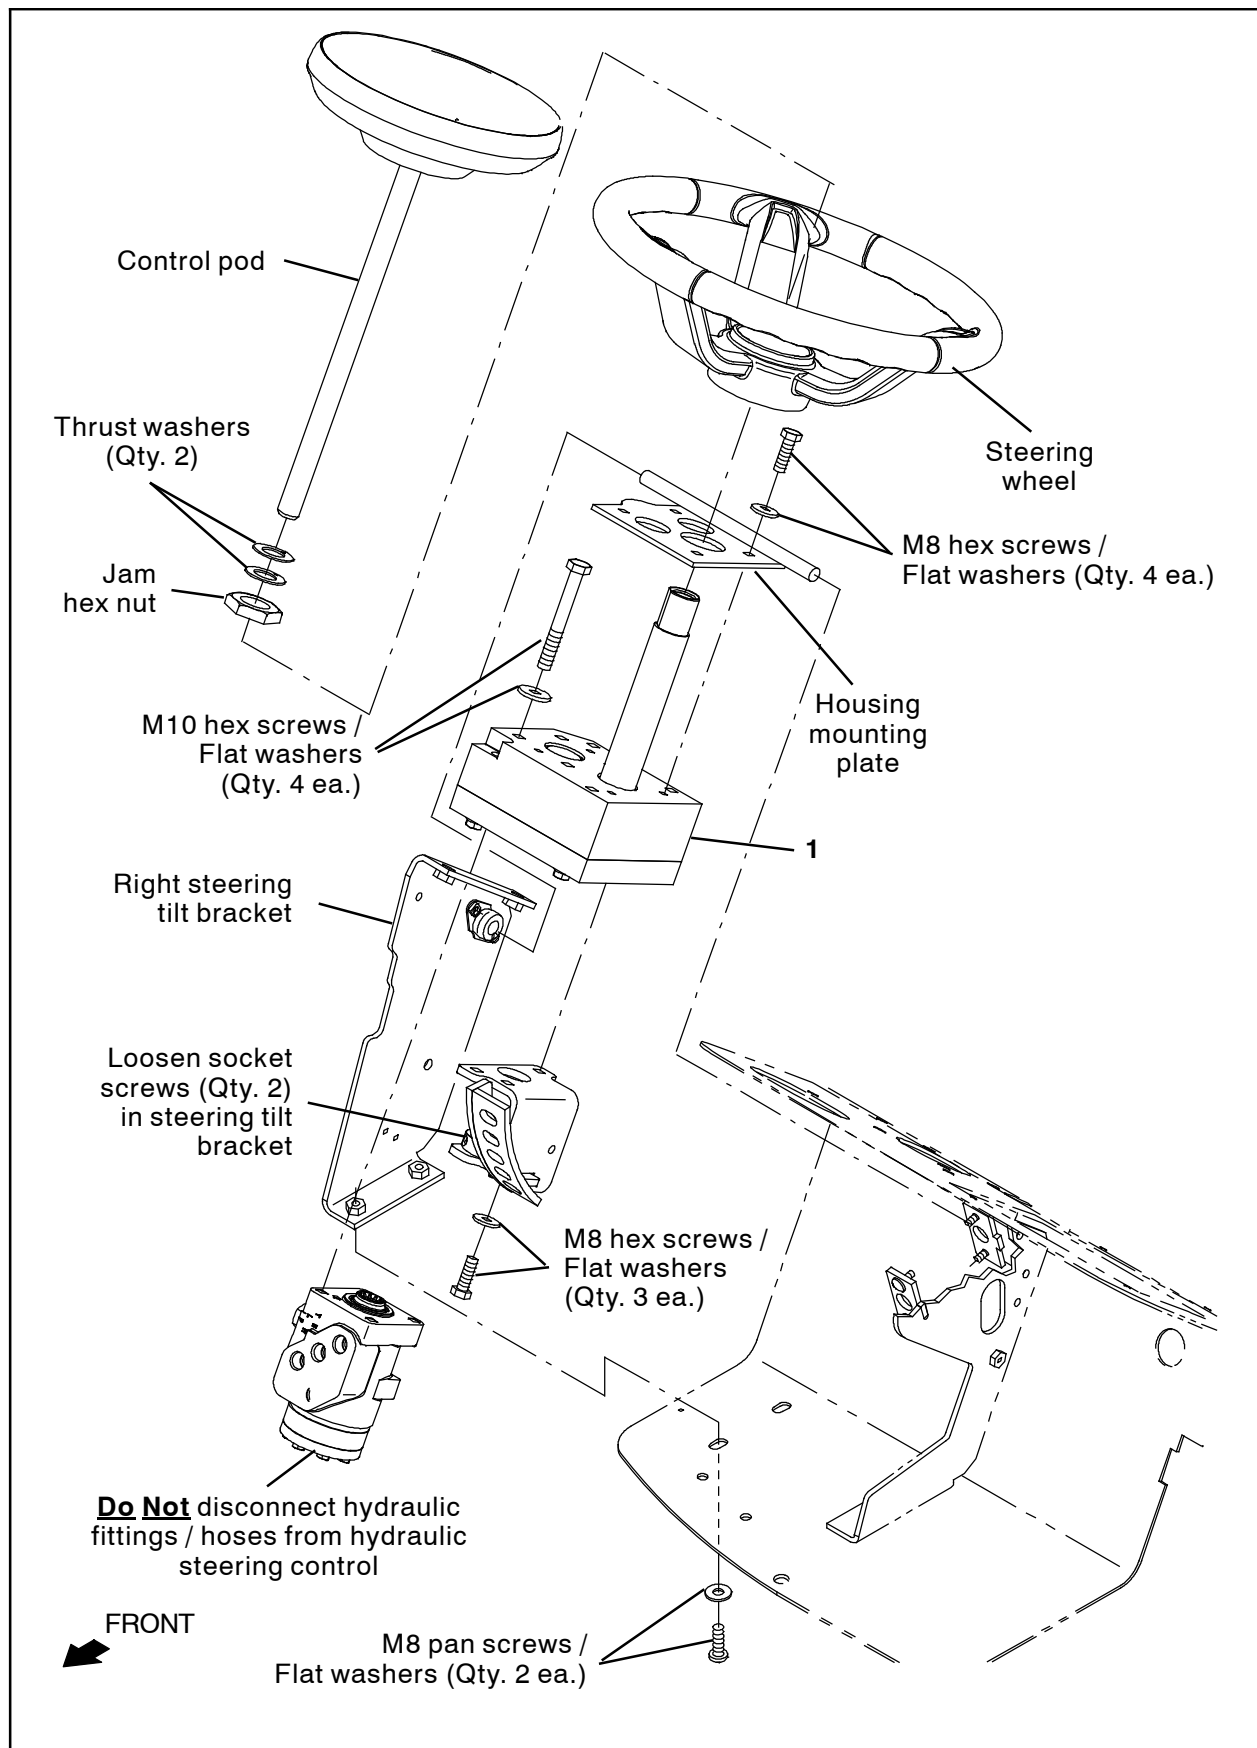
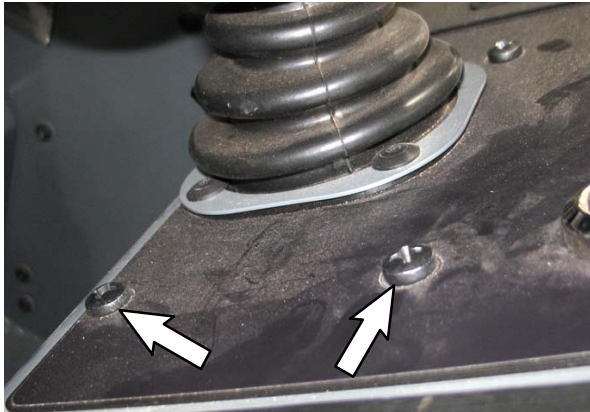

FIG. 1
FIG. 2
2. Loosen the socket screws in the steering tilt bracket securing the control pod into the collar. (Fig. 1)
3. Pull the control pod from the steering assembly. Set the control pod aside. (Fig. 1).
4. Remove the steering wheel from the steering gear box shaft. Set the steering wheel, jam hex nut, and both thrust washers aside. (Fig. 1)
5. Remove the M8 pan screws securing the right steering tilt bracket to the frame of the machine. Set the M8 pan screws and flat washers aside. (Fig. 1)
6. Remove both M8 pan screws securing the right steering tilt bracket to the frame of the machine. Set the M8 pan screws and flat washers aside. (Fig. 1 / Fig. 2)
7. Remove the right steering tilt bracket from the frame of the machine. Set the right steering tilt bracket aside. (Fig. 1)
8. Remove the four M10 hex screws securing the hydraulic steering control to the steering gear box. (Fig. 1)
9. Remove the steering gear box from the machine. (Fig. 1)
10. Remove the steering tilt bracket from the steering gear box. Set the steering tilt bracket, the three M8 hex screws, and the three flat washers aside. (Fig. 1)
11. Remove the housing mounting plate from the steering gear box. Set the housing mounting plate, the four M8 hex screws, and the four flat washers aside. Discard the removed steering gear box. (Fig. 1)
12. Install the housing mounting plate onto the new steering gear box (1). (Fig. 1)
13. Install the steering tilt bracket onto the steering gear box (1). Do not completely tighten the three M8 hex screws. These items are tightened during later adjustment. (Fig. 1)
14. Insert the steering gear box (1) / housing mounting plate / steering tilt bracket into place in the machine and install the hydraulic steering control onto the steering gear box. (Fig. 1)
15. Reinstall the right steering tilt bracket onto the machine. (Fig. 1 / Fig. 2)
18. Insert the control pod into the steering wheel / gear box shaft / steering tilt bracket. (Fig. 1)
20. Tighten the socket screws in the steering tilt bracket to secure the control pod in the steering tilt bracket. (Fig. 1)
21. Tighten the three M8 hex screws to fully secure the steering tilt bracket to the steering gear box (1). (Fig. 1)
23. Start and test the machine. Turn the steering wheel in the full range of motion in both directions. If there is any binding or steering is difficult, loosen the three M8 hex screws securing the steering tilt bracket to the steering gear box (1). Retighten the three M8 hex screws. Recheck steering.